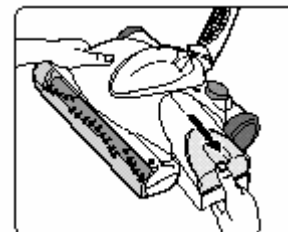

Fig. 6
1. Pull the dust container straight out from the side. (Fig. 6)